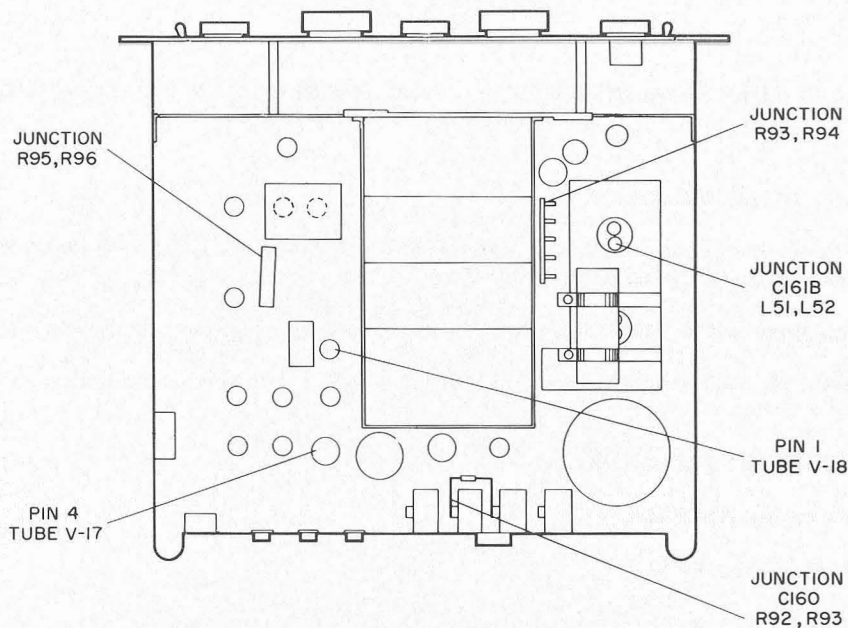

Figure 1-3. Radio Receivers SP-600-JX-21 and SP-600-JX-17, Bottom View
- (4) Disconnect the antenna cable from the antenna input connector.
- (5) Remove the eight screws holding the radio receiver in the relay rack and remove the receiver from the rack.
- (6) Loosen the four thumb screws holding the top cover to the radio receiver and remove the cover.
- (7) Set the radio receiver on its side. Remove the seven machine screws holding the bottom plate to the radio receiver and remove the plate.
- (8) Insert the power line plug of the radio receiver into the 115-volt, 60-cycle power source.
- (9) Connect the 600-ohm, 2-watt resistor between the AUDIO OUTPUT terminals on the rear of the radio receiver.
- (10) Set the FUNCTION switch on Multimeter AN/PSM-6 to the DCV-20K Ω /V position.
- (11) Set the RANGE switch on Multimeter AN/PSM-6 to the $\Omega \times 10000/500$ position.
- (12) Insert the red test lead into the red jack of the multimeter and the black test lead into the black jack of the multimeter.
- (13) Slip a red alligator clip over the red test prod point and a black alligator clip over the black test prod point.
- (14) Connect the black test lead to the receiver chassis and the red test lead to the junction of L-51, L-52, and C-161B (figure 1-3).
- (2) Rotate the RF GAIN control counterclockwise to 0. The indication on the multimeter should be between 295 and 315 volts.
- (3) Rotate the RF GAIN control on the radio receiver counterclockwise to the OFF position.
- (4) Set the RANGE switch on the multimeter to the $\Omega \times 1000/250$ position.
- (5) Remove the red test lead from the junction of L-51, L-52, and C-161B and connect it to pin 4 of tube V-17 (figure 1-3).
- (6) Rotate the RF GAIN control on the radio receiver clockwise from the OFF position to 10. The indication on the multimeter should be between 220 and 235 volts.
- (7) Set the RANGE switch on the multimeter to the $\Omega \times 10000/500$ position.
- (8) Rotate the RF GAIN control on the radio receiver counterclockwise to 0. The indication on the multimeter should be between 255 and 275 volts.
- (9) Rotate the RF GAIN control on the radio receiver counterclockwise to the OFF position.
- (10) Set the RANGE switch on the multimeter to the $\Omega \times 1000/250$ position.
- (11) Remove the red test lead from pin 4 of tube V-17 and connect it to pin 1 of tube V-18 (figure 1-3).
- (12) Rotate the RF GAIN control on the radio receiver clockwise from the OFF position to 0. The indication on the multimeter should be between 145 and 155 volts.
- (13) Rotate the RF GAIN control on the radio receiver counterclockwise to the OFF position.
- (14) Remove the red test lead from pin 1 of tube V-18 and connect it to the radio receiver chassis (ground). Remove the black test lead from the radio receiver chassis (ground) and connect it to the junction of C-160, R-92, and R-93 (figure 1-3).
- (15) Rotate the RF GAIN control on the radio receiver clockwise from the OFF position to 0. The indication on the multimeter should be between 50 and 53 volts.
- (16) Rotate the RF GAIN control on the radio receiver counterclockwise to the OFF position.
- (17) Set the RANGE switch on the multimeter to the $\Omega \times 100/50$ position.
- (18) Remove the black test lead from the junction of C-160, R-92, and R-93 and connect it to the junction of R-95 and R-96 (figure 1-3).
- (19) Rotate the RF GAIN control on the radio receiver clockwise from the OFF position to 0. The indication on the multimeter should be between 9.5 and 10.5 volts.
- (20) Rotate the RF GAIN control on the radio receiver counterclockwise to the OFF position.